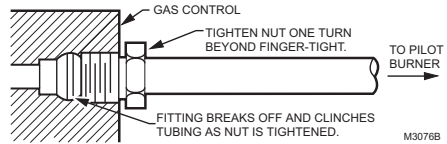

Fig. 5. Always use new compression fitting.
5. Push tubing into the pilot gas tapping on the outlet end of the control until it bottoms. While holding tubing all the way in, slide compression fitting into place, engage threads and turn until finger tight. Then tighten one more turn with wrench. Do not overtighten. Refer to Fig. 5 and 6.